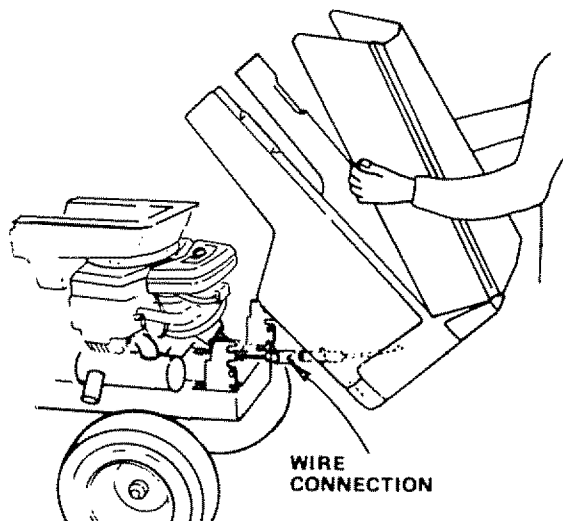

FIGURE 46
- a. Lift Hood. Disconnect Headlight Wiring Connection (Fig. 46).
- c. Pivot Hood and Side Panel forward and lift off tractor (Fig. 46).